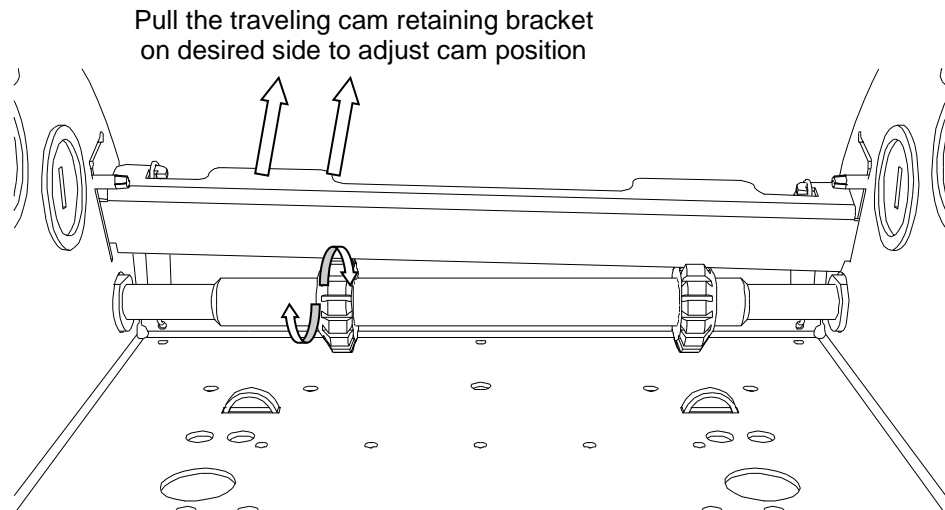

Figure 12 Adjusting the limit cams
3. Pull the travelling cam retaining bracket on the *Open Position cam* side and rotate the *Open Position cam* (Figure 12).